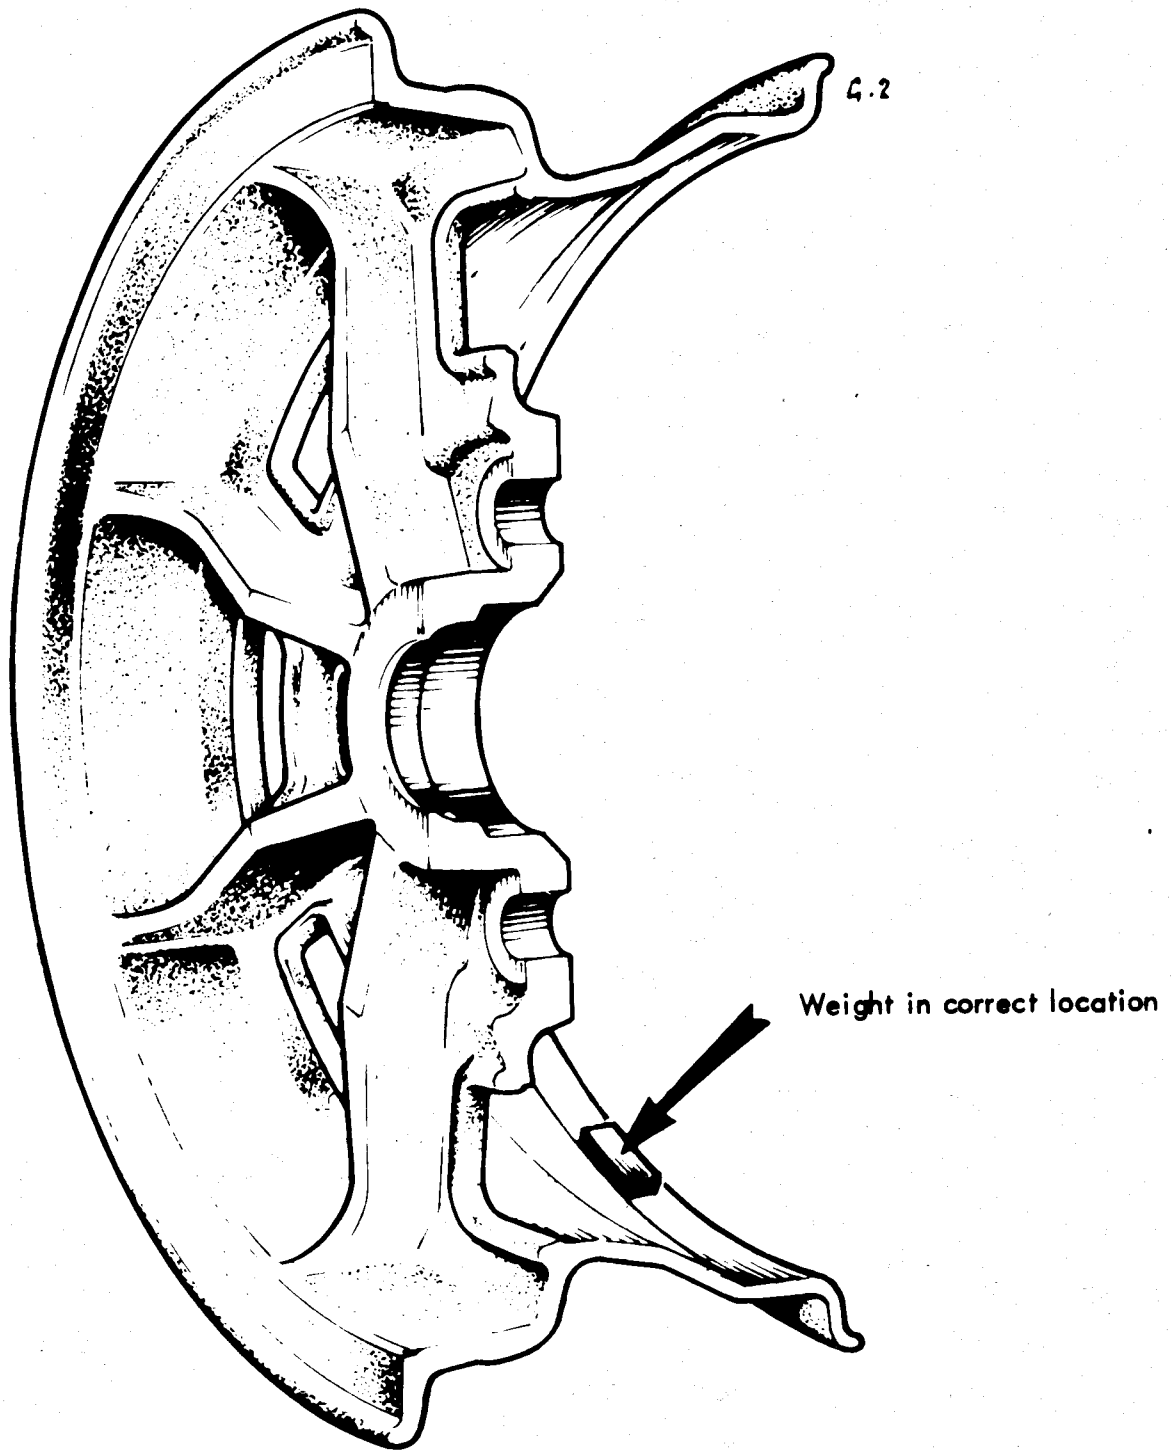

Fig. 1. ALLOY WHEEL SHOWING CORRECT LOCATION OF BALANCE WEIGHTS.
3. It is **IMPORTANT** that any balance weights are hard up against the corner radius of the wide part of the inside of the wheel (see Fig. 1.)